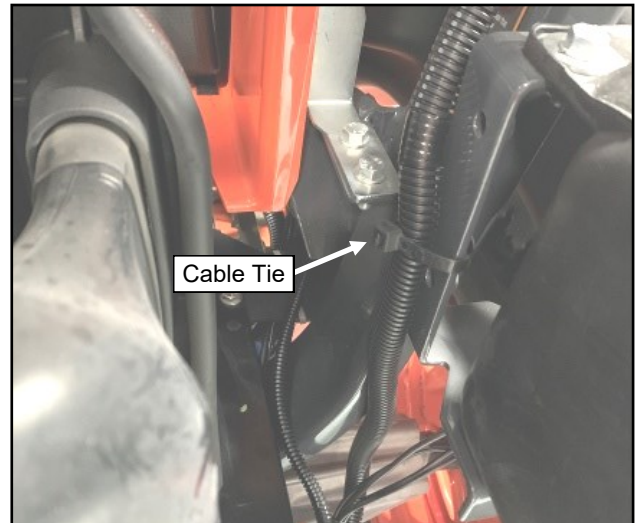

Fig. 7.6 (Secure Wire Harness)
7.6 See fig. 7.6. Using one cable tie, secure the wire harness to the vehicle frame. Ensure that the wire harness will not contact any sharp edges. Make sure hood closes without hitting the wire harness.